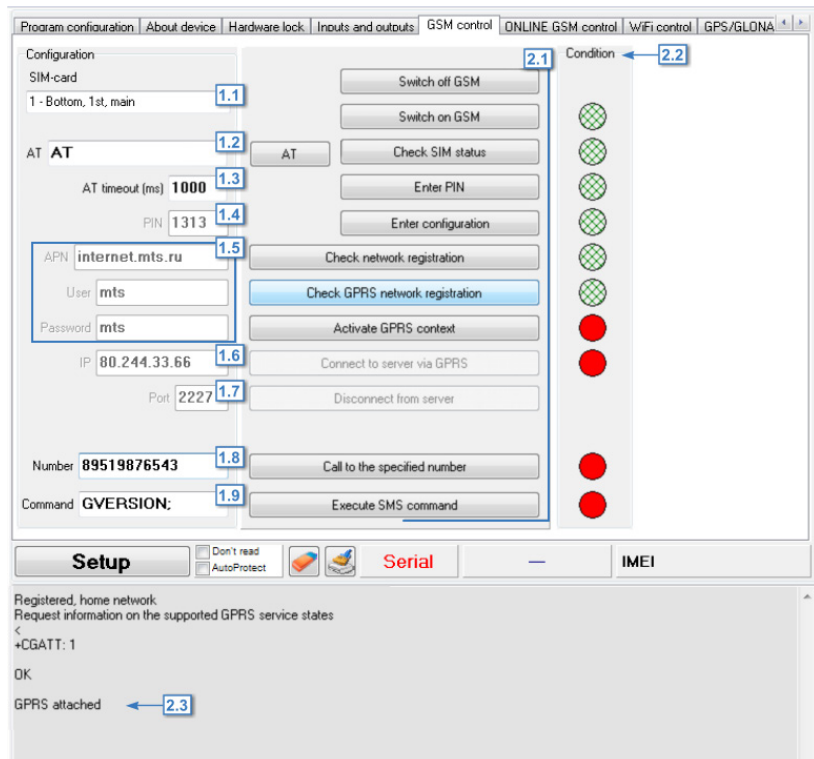

Fig.78. Control tab. GSM Control.
Press buttons (Fig.78, item 2.1) one by one from the top downward to test the modem. It takes some time to process each command. Indicators (Fig.78, item 2.2) are used to display state of command processing:
Also state of processing the command is displayed on the status window (Fig.78, item 2.3).
14. Make a call to telephone number specified in field 1.8 (Fig.78) (use the “Call to the specified number” button). When making a voice call, GSM LED is continuously ON.
15. Send test SMS command. Specify the command in field 1.9 (Fig.78) and press the “Execute SMS command” button.